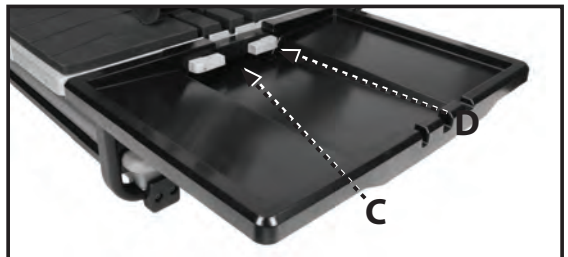

FIGURE 11
3. Attach the upper splash tray by fitting the cutout (C, Fig. 11) on the tray over the mounting plate (D, Fig. 11) on the table.